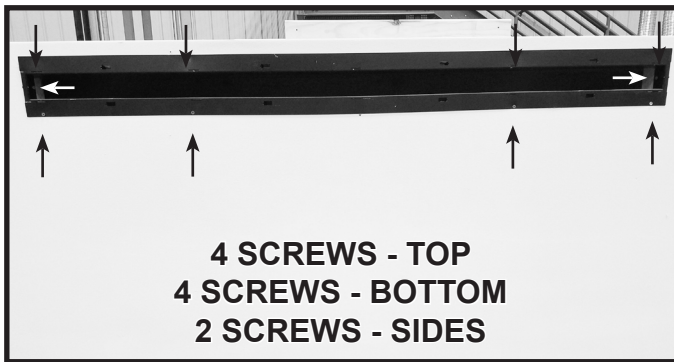

Figure 5 Attach Back Plate to Wall
3. Attach the inside bends to the framing using two screws. See Figure 5.